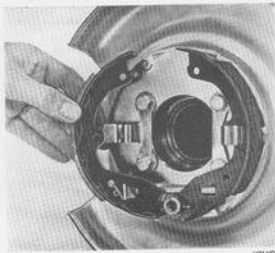
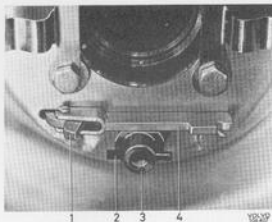
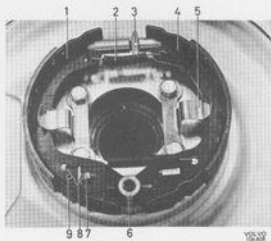

Fig. 5-84. Fitting brake shoes
Fig. 5-85. Brake parts
Fig. 5-86. Parking brake
- Remove both the return springs and the adjusting device. Lift forward the shoes, see Fig. 5-84. Manipulating the links will facilitate removal.
2. Coat the 6 guide lips on the backing plate as well as the lever joint and adjusting screw with heat-resistant graphite grease intended for this purpose. Check that the lever and anchor bolt parts are correctly fitted, see Fig. 5-85. Check that the washer (8, Fig. 5-86) and the spring (7) are in position on the primary shoes.
3. Fit the brake shoes, see Fig. 5-84. The shorter sleeve on the adjusting device should be turned forwards on the right-hand side and backwards on the left-hand side, see Fig. 5-86.